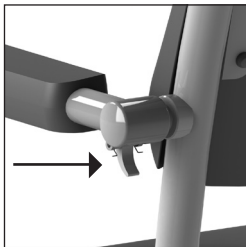

Figure 10 Armrest.
- The armrests can be unlocked by pressing the security catch at the hinging point on the frame (See *figure 10*). The armrests can then be turned up for the client and folded up.